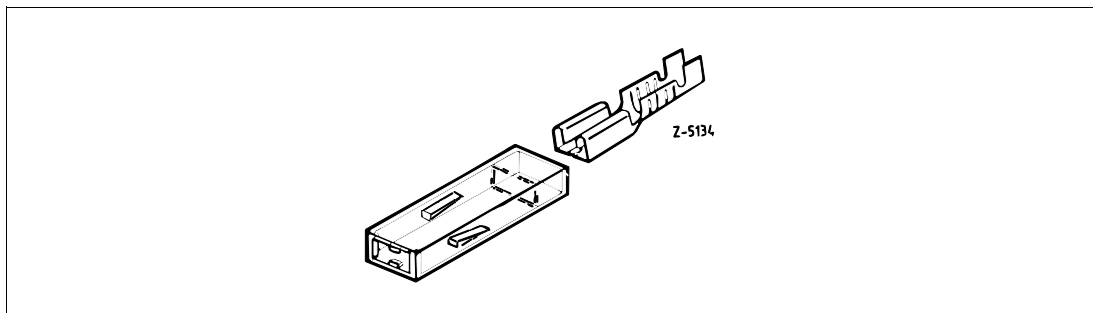

Fig. 3-7 Connection with female tab connector and insulating sleeve
- Connect the power supply using female tab connectors and insulating sleeves type A 6.3 x 0.8 (see Fig. 3-7).